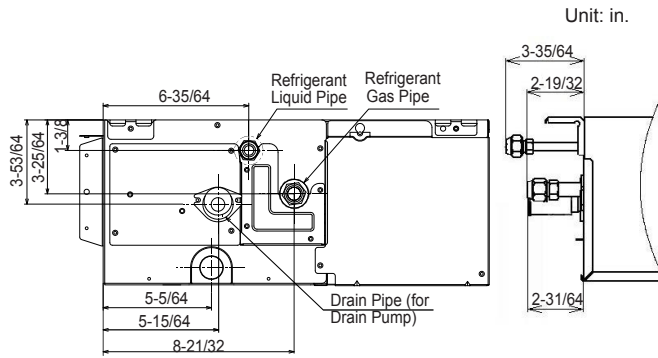

Fig. 5.1 Piping Connection Points
(1) Piping connection points are shown in Figs. 5.1 and 5.2.